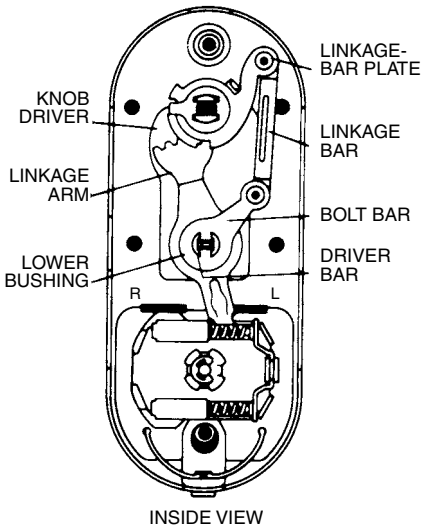

Figure 13.95 Right-hand conversion, Step 3.
3. Remove the linkage-bar plate, linkage bar, bolt bar, driver bar, knob-driver linkage arm, and lower bushing (Fig. 13.95).